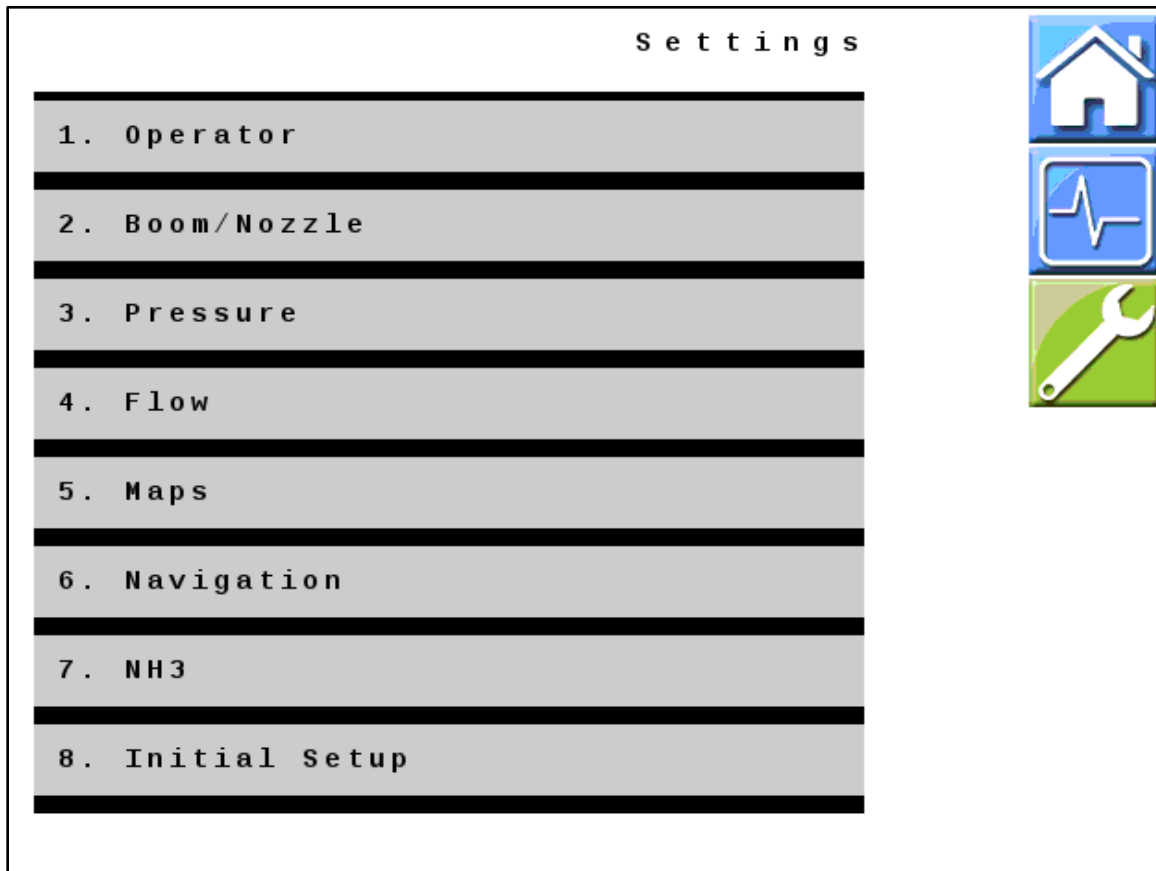

Figure 3 — Settings Menu
3. *Figure 3:* Take note of the different menus which are reached from the settings menu. Some of these will require input of machine specific variables. Other settings only need to be verified correct from the factory.